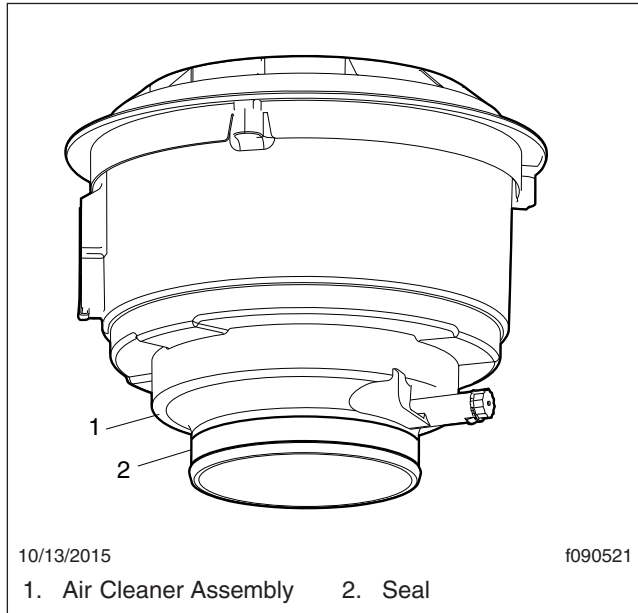

Fig. 3, Assembly, Air Intake Seal and Housing
3. Install seal 03-35087-002 on the air cleaner outlet as shown in Fig. 3.
5. Install seal 03-35087-002 on the outlet of the new air cleaner as shown in Fig. 3.